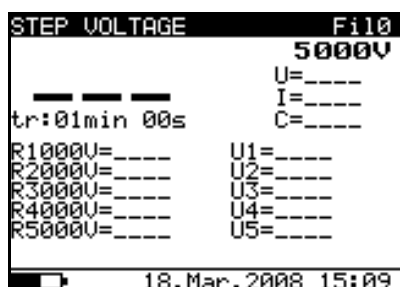
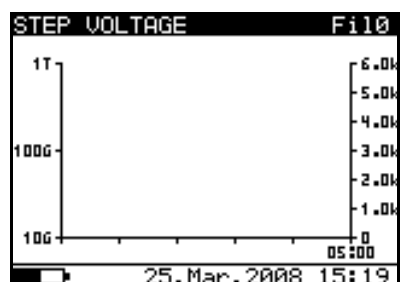

Fig. 38: Initial numerical screen
Fig. 40: Initial graphical screen
2. Select with arrow keys **▼** or **▲** the item "STEP VOLTAGE" on main menu and confirm with **SELECT** key. The screen of Fig. 38 is shown by the meter. In case of activation of Graphic R(t) option press arrow keys **▼** or **▲** to select the graphical screen of Fig. 40